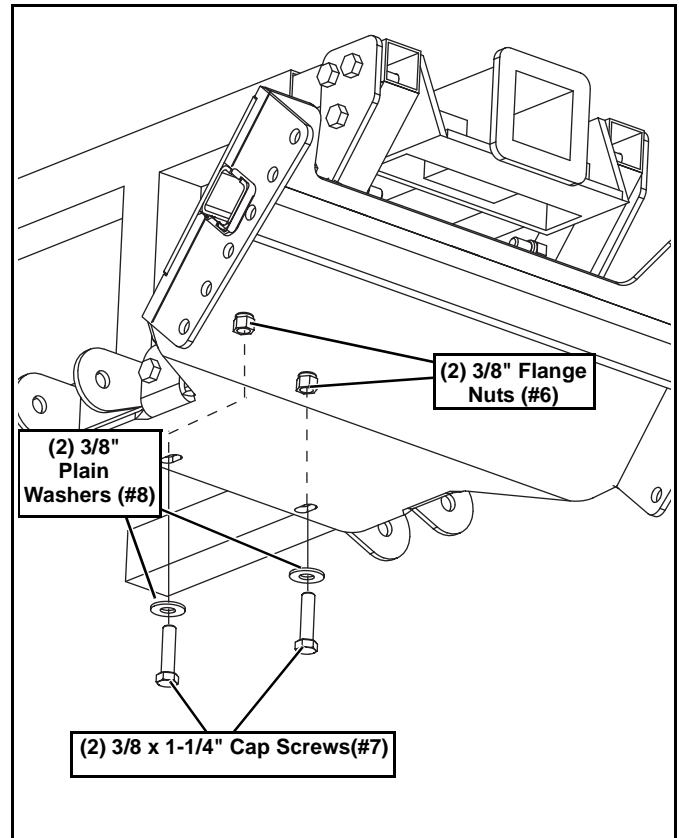

Figure 9
- Secure the bottom of item #2 by reinstalling the hardware that was removed from step 3, but place (1) 3/8 inch Plain Washer (#8) over each Cap Screw before installing. (See Figure 9.)